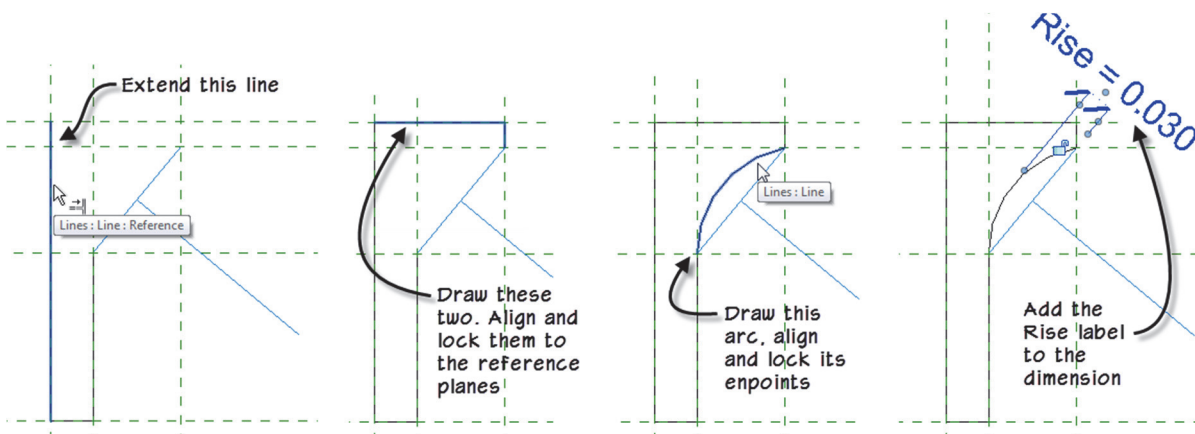

FIGURE 4.48
- ⇒ Align and lock the two new lines to the reference planes (see the left two images in Figure 4.48).
- ⇒ Align and lock the endpoints of the arc to the reference planes (see the third image in in Figure 4.48).
⇒ Label the dimension with the **Rise** parameter (see the right image in Figure 4.48).